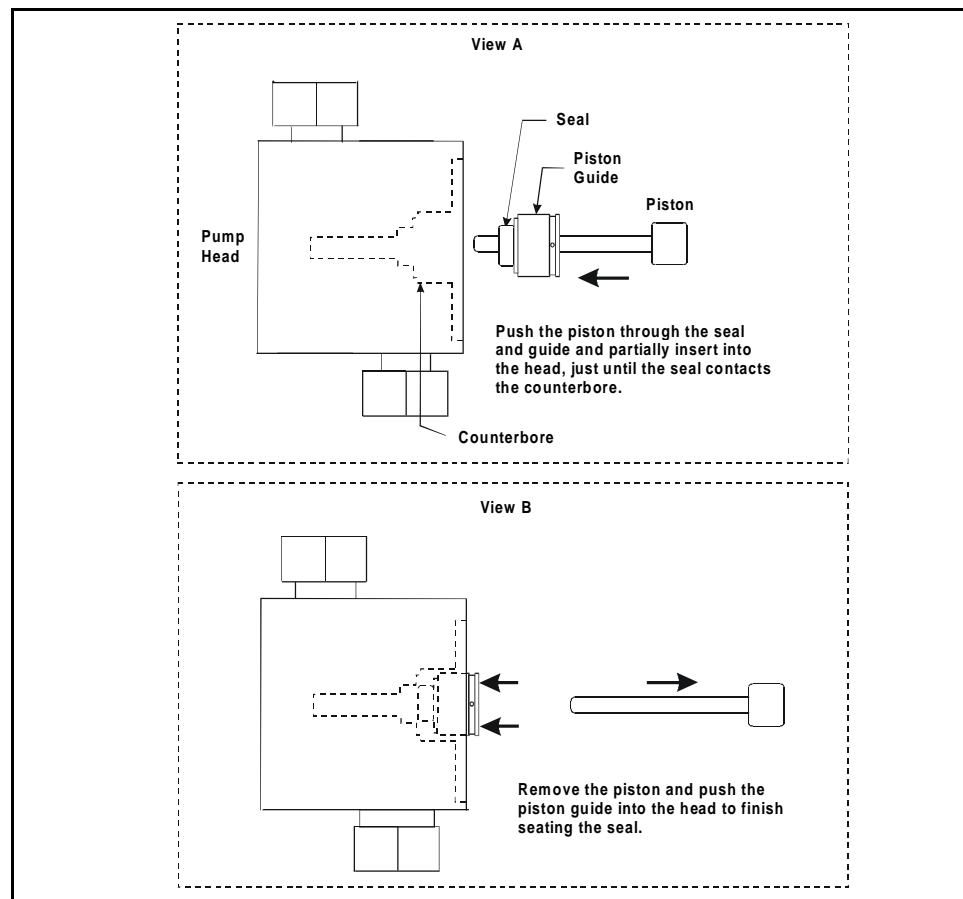

Figure 5-5. Installing the Piston Seal
- a. Push the piston through the piston guide and the new seal. Then insert the piston, piston guide, and seal into the pump head until the seal makes contact with the bottom of the counterbore (see Figure 5-5, View A).
- b. Hold the piston guide and seal in place and remove the piston from the head (see Figure 5-5, View B).